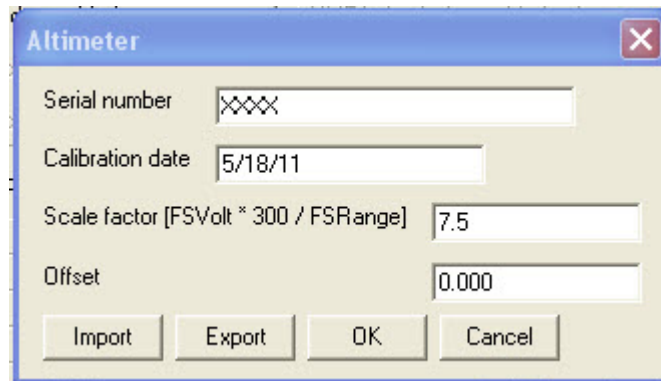

Figure 13: Altimeter parameters.
3. Select Altimeter as New Voltage Sensor and enter scale factor of 7.5 (Figure 13).